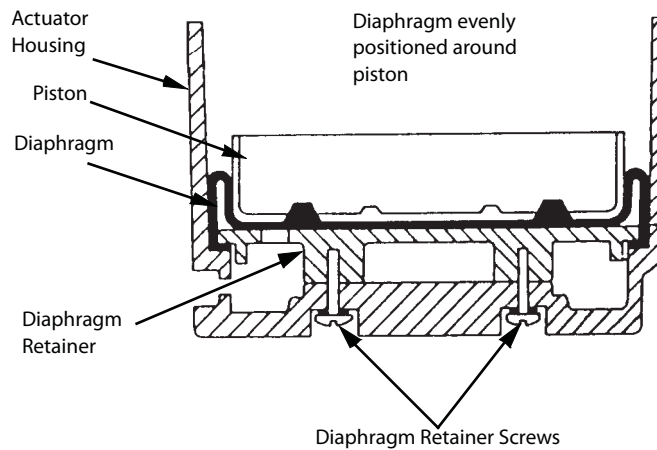
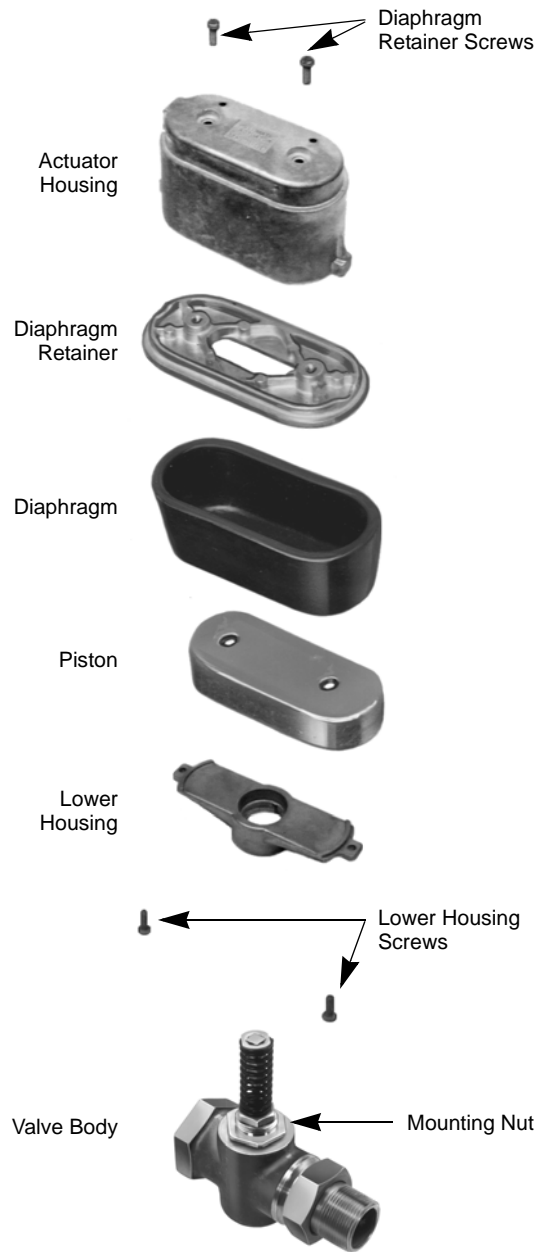

Figure-2 Positioning Piston in Diaphragm (shown with actuator in the inverted position).
Figure-3 Exploded View of MK-2690.
2. Loosen mounting nut. (See Figure-3.)
4. Place actuator on its top, and remove two (2) lower housing screws. Remove lower housing.
7. Remove diaphragm and its retainer from actuator housing by pulling them straight out from housing. (See Figure-2 and Figure-3.)
10. Place the actuator housing on its top (open side up) and center the piston on the diaphragm. (See Figure-2.)
11. Pull protrusions on diaphragm through mating holes on piston. (See Figure-2.)
12. Push the piston down evenly, rolling diaphragm around piston. Be certain to position the piston squarely on diaphragm with equal distances from piston to housing sides. (See Figure-2.)